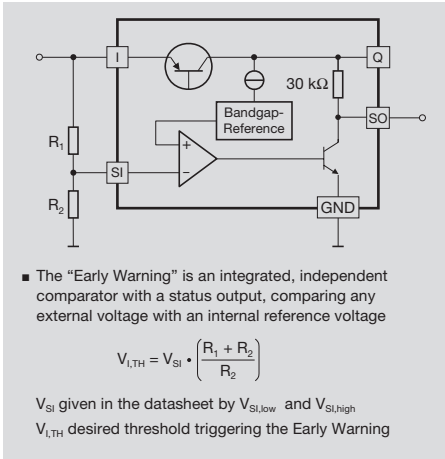

Figure 9.42 Early Warning Circuit
The final auxiliary function presented in this section is the Early Warning Function. Figure 9.42 shows a simplified Early Warning circuit. It can be used in a voltage regulator by comparing a divided sample of the input voltage ( $V_{SI}$ ) to a known reference voltage. When the external voltage at the sense input voltage  $V_{SI}$  drops below the reference voltage  $V_{I,TH}$  an active low warning signal is generated at the sense output (SO) pin.